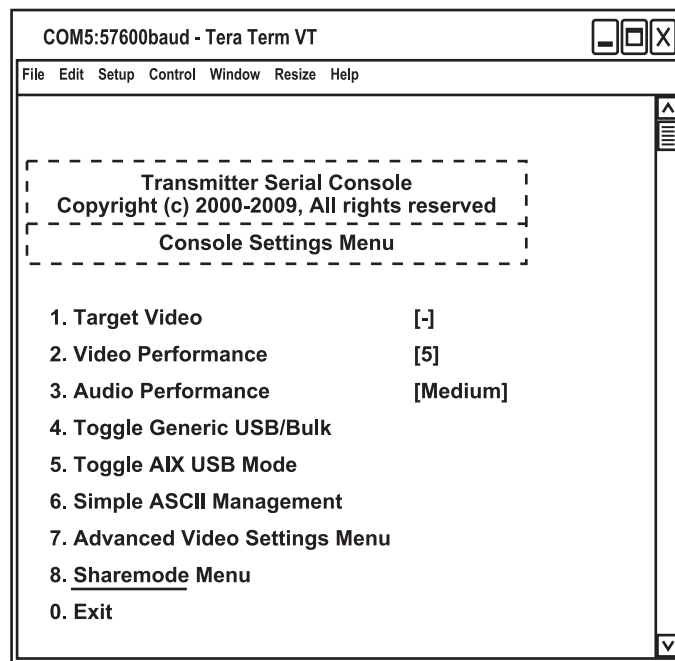

Figure 5-2. Transmitter Console Settings Menu.
2. Press "7" to access the Console Settings Menu and press "Enter." The Console Settings Menu will display (see Figure 5-2).